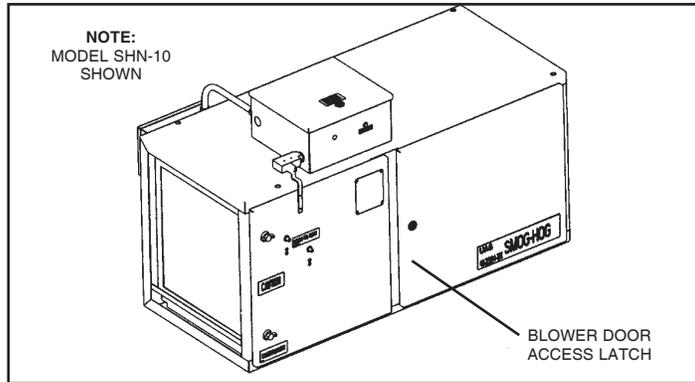

Figure 3
For proper airflow, the blower should be operating in the correct direction. If the blower is operating in the reverse direction, air will move in the proper direction, but at significantly reduced rates. Refer to Figure 3 for access to blower compartment. To check rotation:
- M. Access Door (Drive Set)** - A separate hinged door allows access to motor and blower for easy adjustment (Refer to Figure 3).